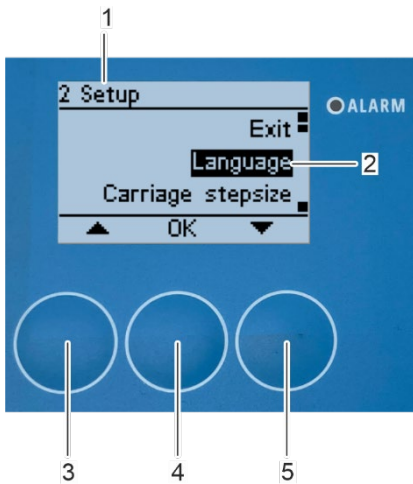

Fig. 124: Select submenu "language"
1. Select the "Language" submenu (Fig. 124/2) with the arrow keys [up] (Fig. 124/3) and [down] (Fig. 124/5).
2. Confirm the selection with [OK] (Fig. 124/4).